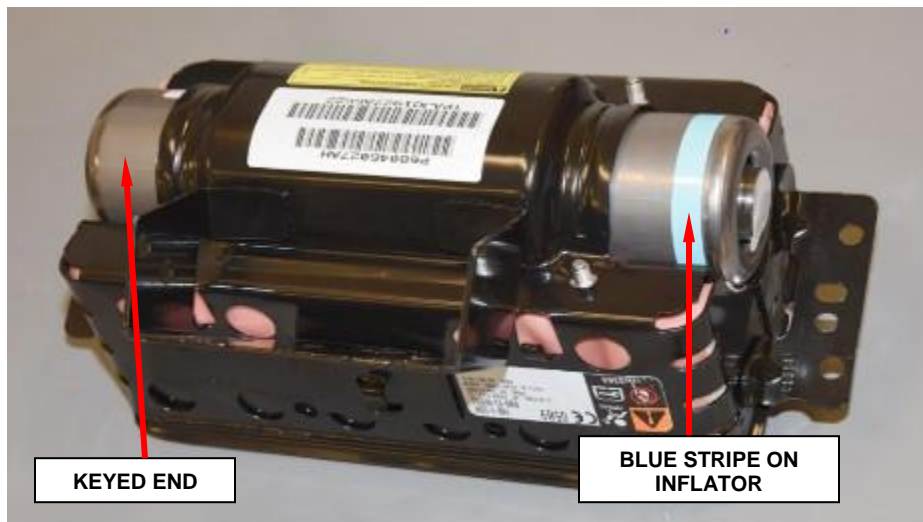

Figure 77 – Insert Inflator (Shown with Cushion Installed)
- k. Slide **new** inflator into housing. The keyed end is inserted first, therefore the blue stripe on the inflator will be located at the open end, as shown (Figure 77).